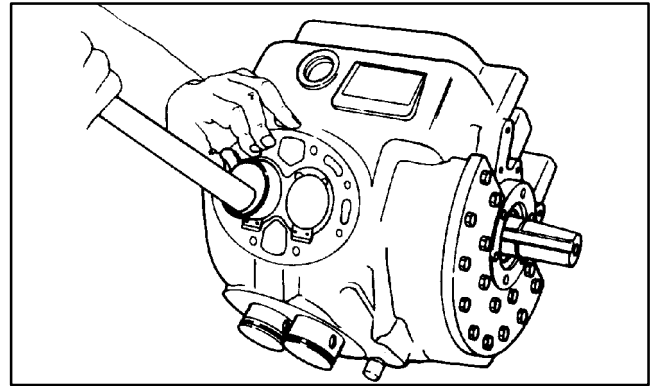

Figure 3-19. Installing Pistons
- Do not tap piston with hammer if rings are caught at entrance to the cylinder. Using a ring compressor, squeeze rings sufficiently to allow piston to be pushed down into the cylinder. Ensure that ring ends are staggered so that the gaps are not aligned, and lightly tap piston down into the cylinder. (See Figure 3-19) The ring compressor can be easily fabricated from a piece of sheet metal.